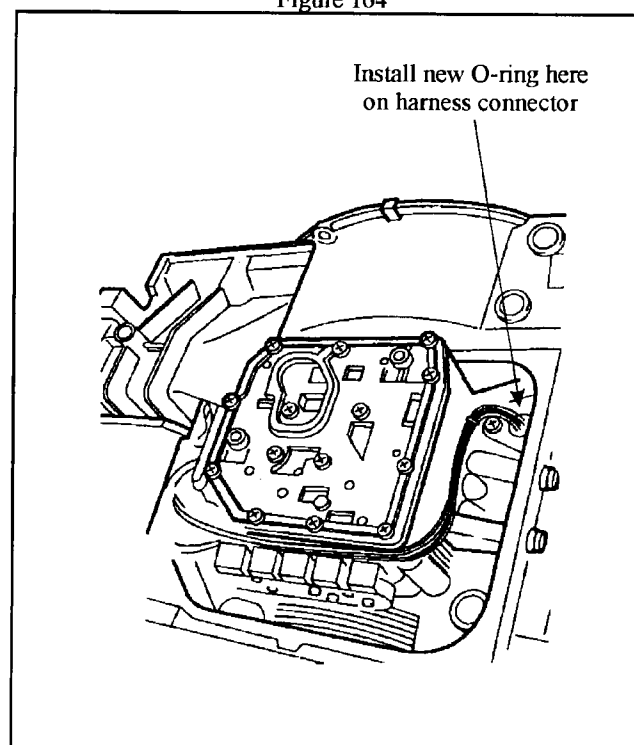

Figure 165
37. Carefully set the control valve assembly on the transaxle housing and hand thread the 14 #30 Torx head bolts that hold the control valve assembly to the case. Torque these bolts evenly to 44 in.lb. Figure 165.
38. Install a new O-ring on the wiring harness pass through connector and gently insert into the harness connector hole in the case (See Figure 165).